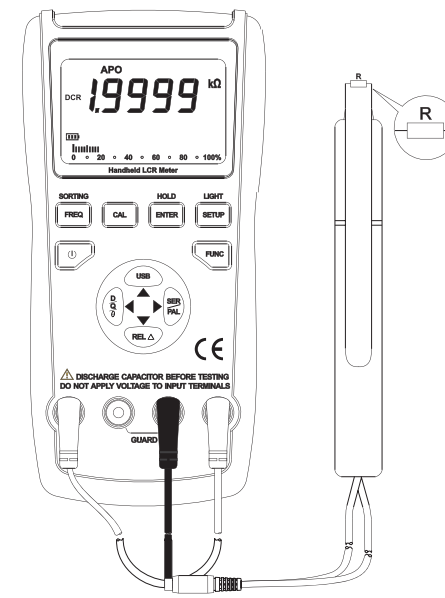

Figure 13
- 3) Insert resistance into testing port or connect corresponding fittings to measured resistance (shown in Figure 13).